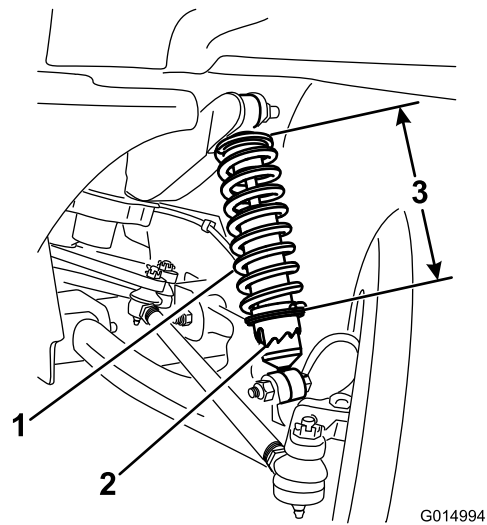

Figure 32
- A. Using tool TORO6010, rotate the collar on the shock absorber to change the length of the spring (Figure 32).